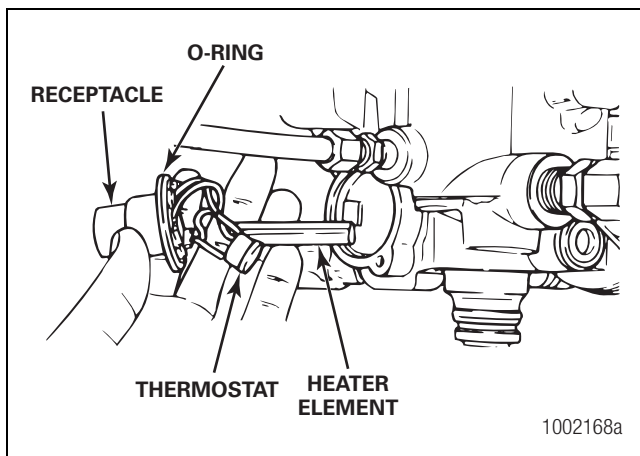

Figure 3.6
8. Install the receptacle and fasten them in place with the screws. Figure 3.6.